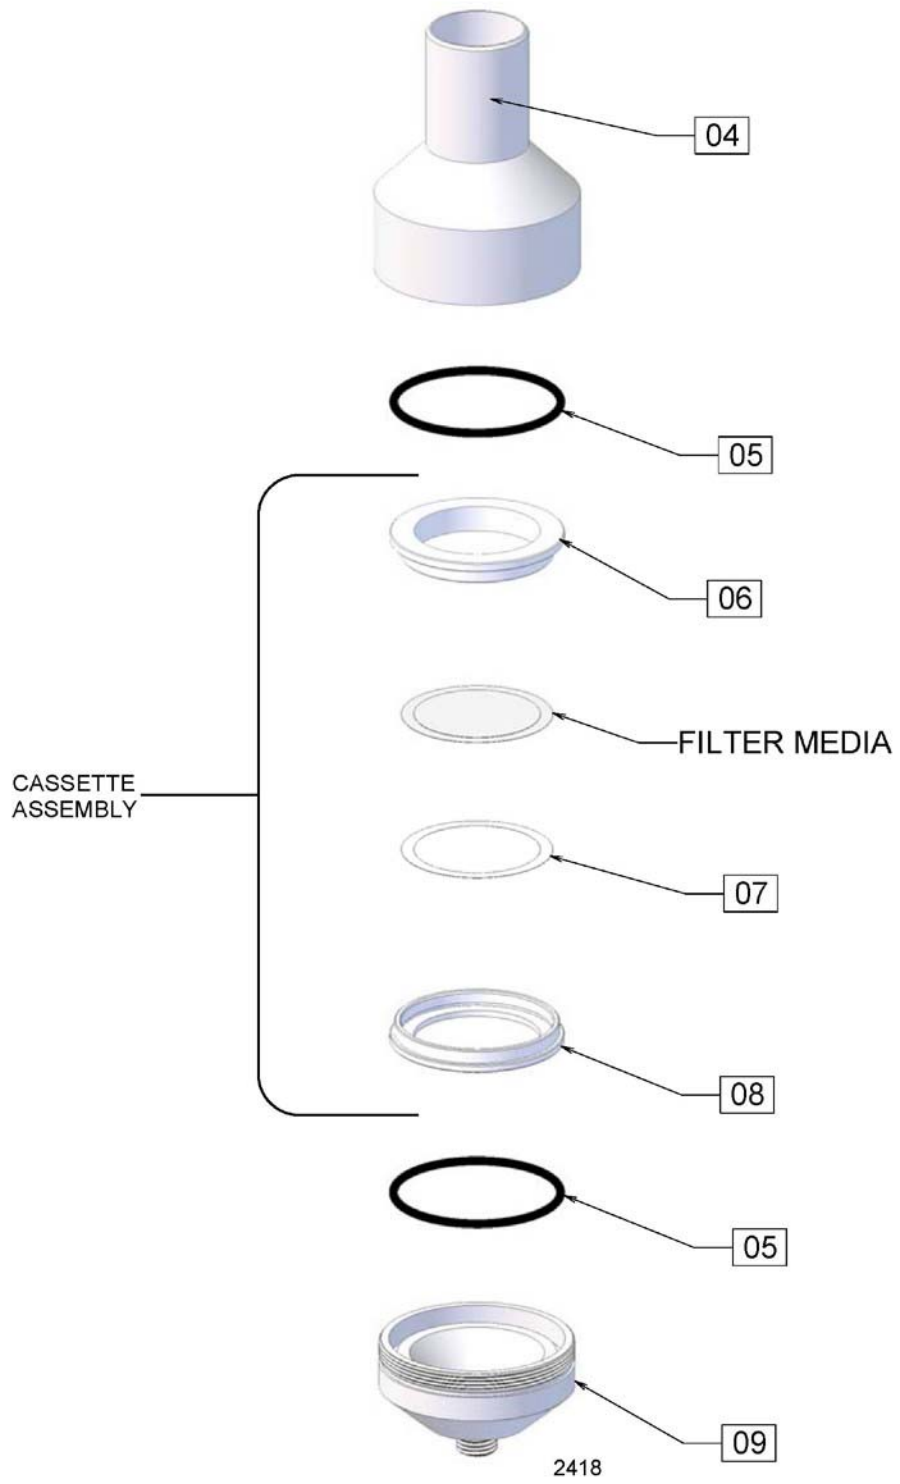

Figure 4. Exploded View of Filter Cassette and Filter Holder
Referring to Figure 4, the filter media is placed on screen (7) and placed on the inner lip of cassette base (8). Cassette top (6) is then inserted into cassette base when pin of base is aligned with locating hole on cassette top. Holder base (9) and holder top (4) are supplied with O-Rings (5) already installed. Loaded cassette is then inserted into base (9) with the screen side down and holder top (4) is then screwed into base (9) firmly as to insure against leaks.